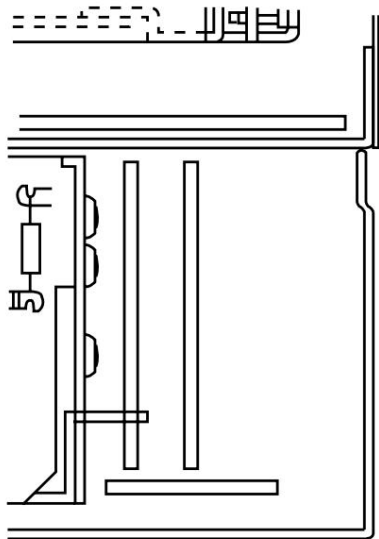

Fig.16 Classis shielding of DSP block
- Main board and DSP board block (power supply board + connection board board + DSP board) are separated and sealed by the housing chassis (Figure 16)